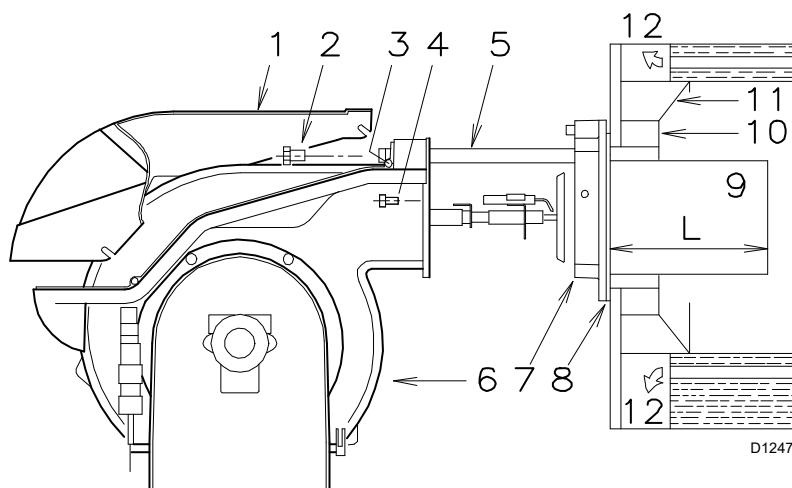

Fig. 7
For boilers having a water-cooled front the refractory fettling 10)-11)(Fig. 7) is not required unless it is expressly requested by the boiler manufacturer.
Secure flange 7)(Fig. 7) to the boiler plate interposing the supplied gasket 8)(Fig. 7). Use the 4 screws provided after having protected the thread with antiscrudding products.
- Retract the burner on its slide bars as shown in Fig. 7 pag. 10.